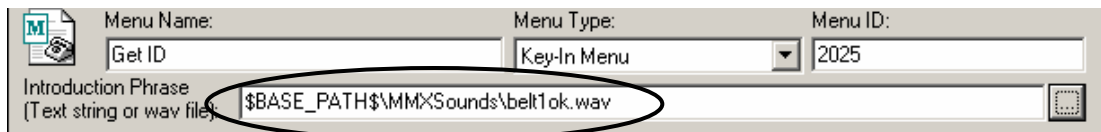

Figure 9.31. Sound File Added to Configuration
- The selected sound file is added to the **Introduction Phrase** field, as shown in Figure 9.31.